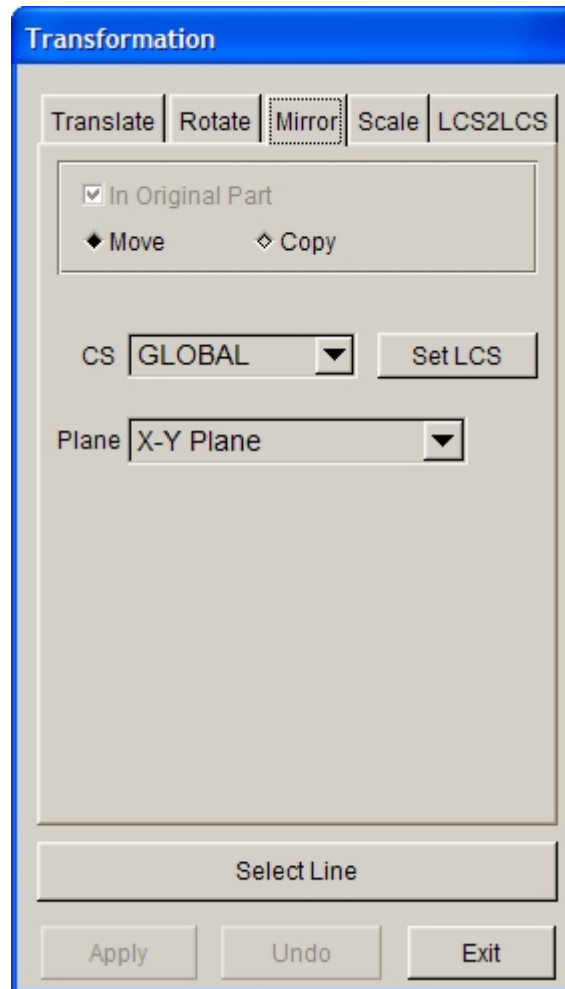

Figure 5.1.35 Mirror Line Interface
1. Select a mirror type: MOVE or COPY, as shown in Figure 5.1.35. Once COPY is selected, IN ORIGINAL PART option is activated. The user can select or deselect IN ORIGINAL PART. If it is not selected, the mirrored line will be in the current part.